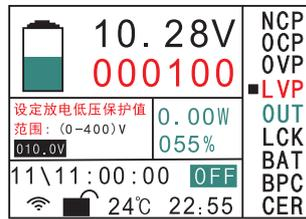

Figure 4-4
4). "**LVP**" Discharge undervoltage protection value, if the value is greater than 0 will start the protection, if equal to 0 will not start the protection function. When setting the parameters, press the  $\uparrow\downarrow$  key to move the cursor to **LVP** and then click the **OK** key to enter into the parameter setting interface Figure 4-4. The setting of parameters is the same as NCP.